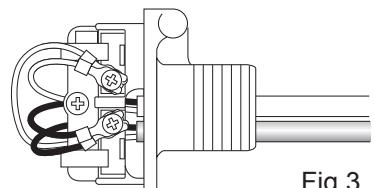

Fig.3
- 11) Loosen two Cable Screws on the Terminals For Controls and connect the cable accordingly. You can not connect more than two cables at a time. If more than two, please connect in parallel. (Fig.3)